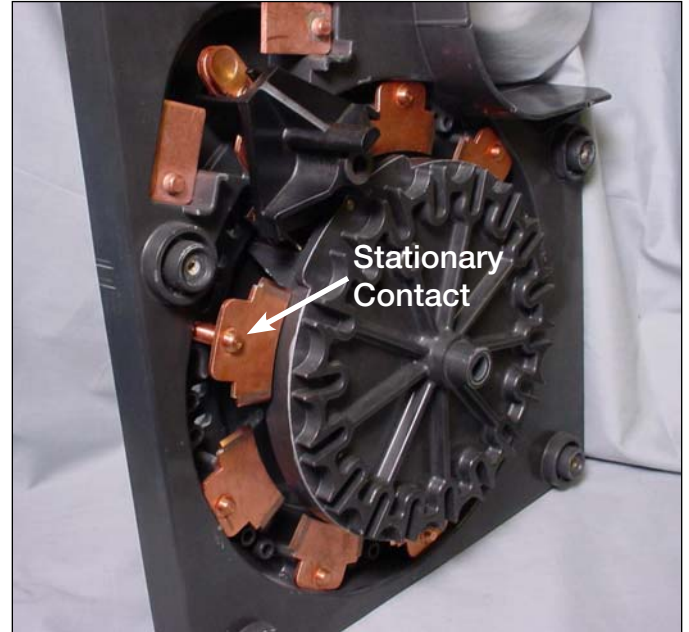

Figure 18.
- Push the contact stud through the mounting hole in the contact panel. See Figure 18.